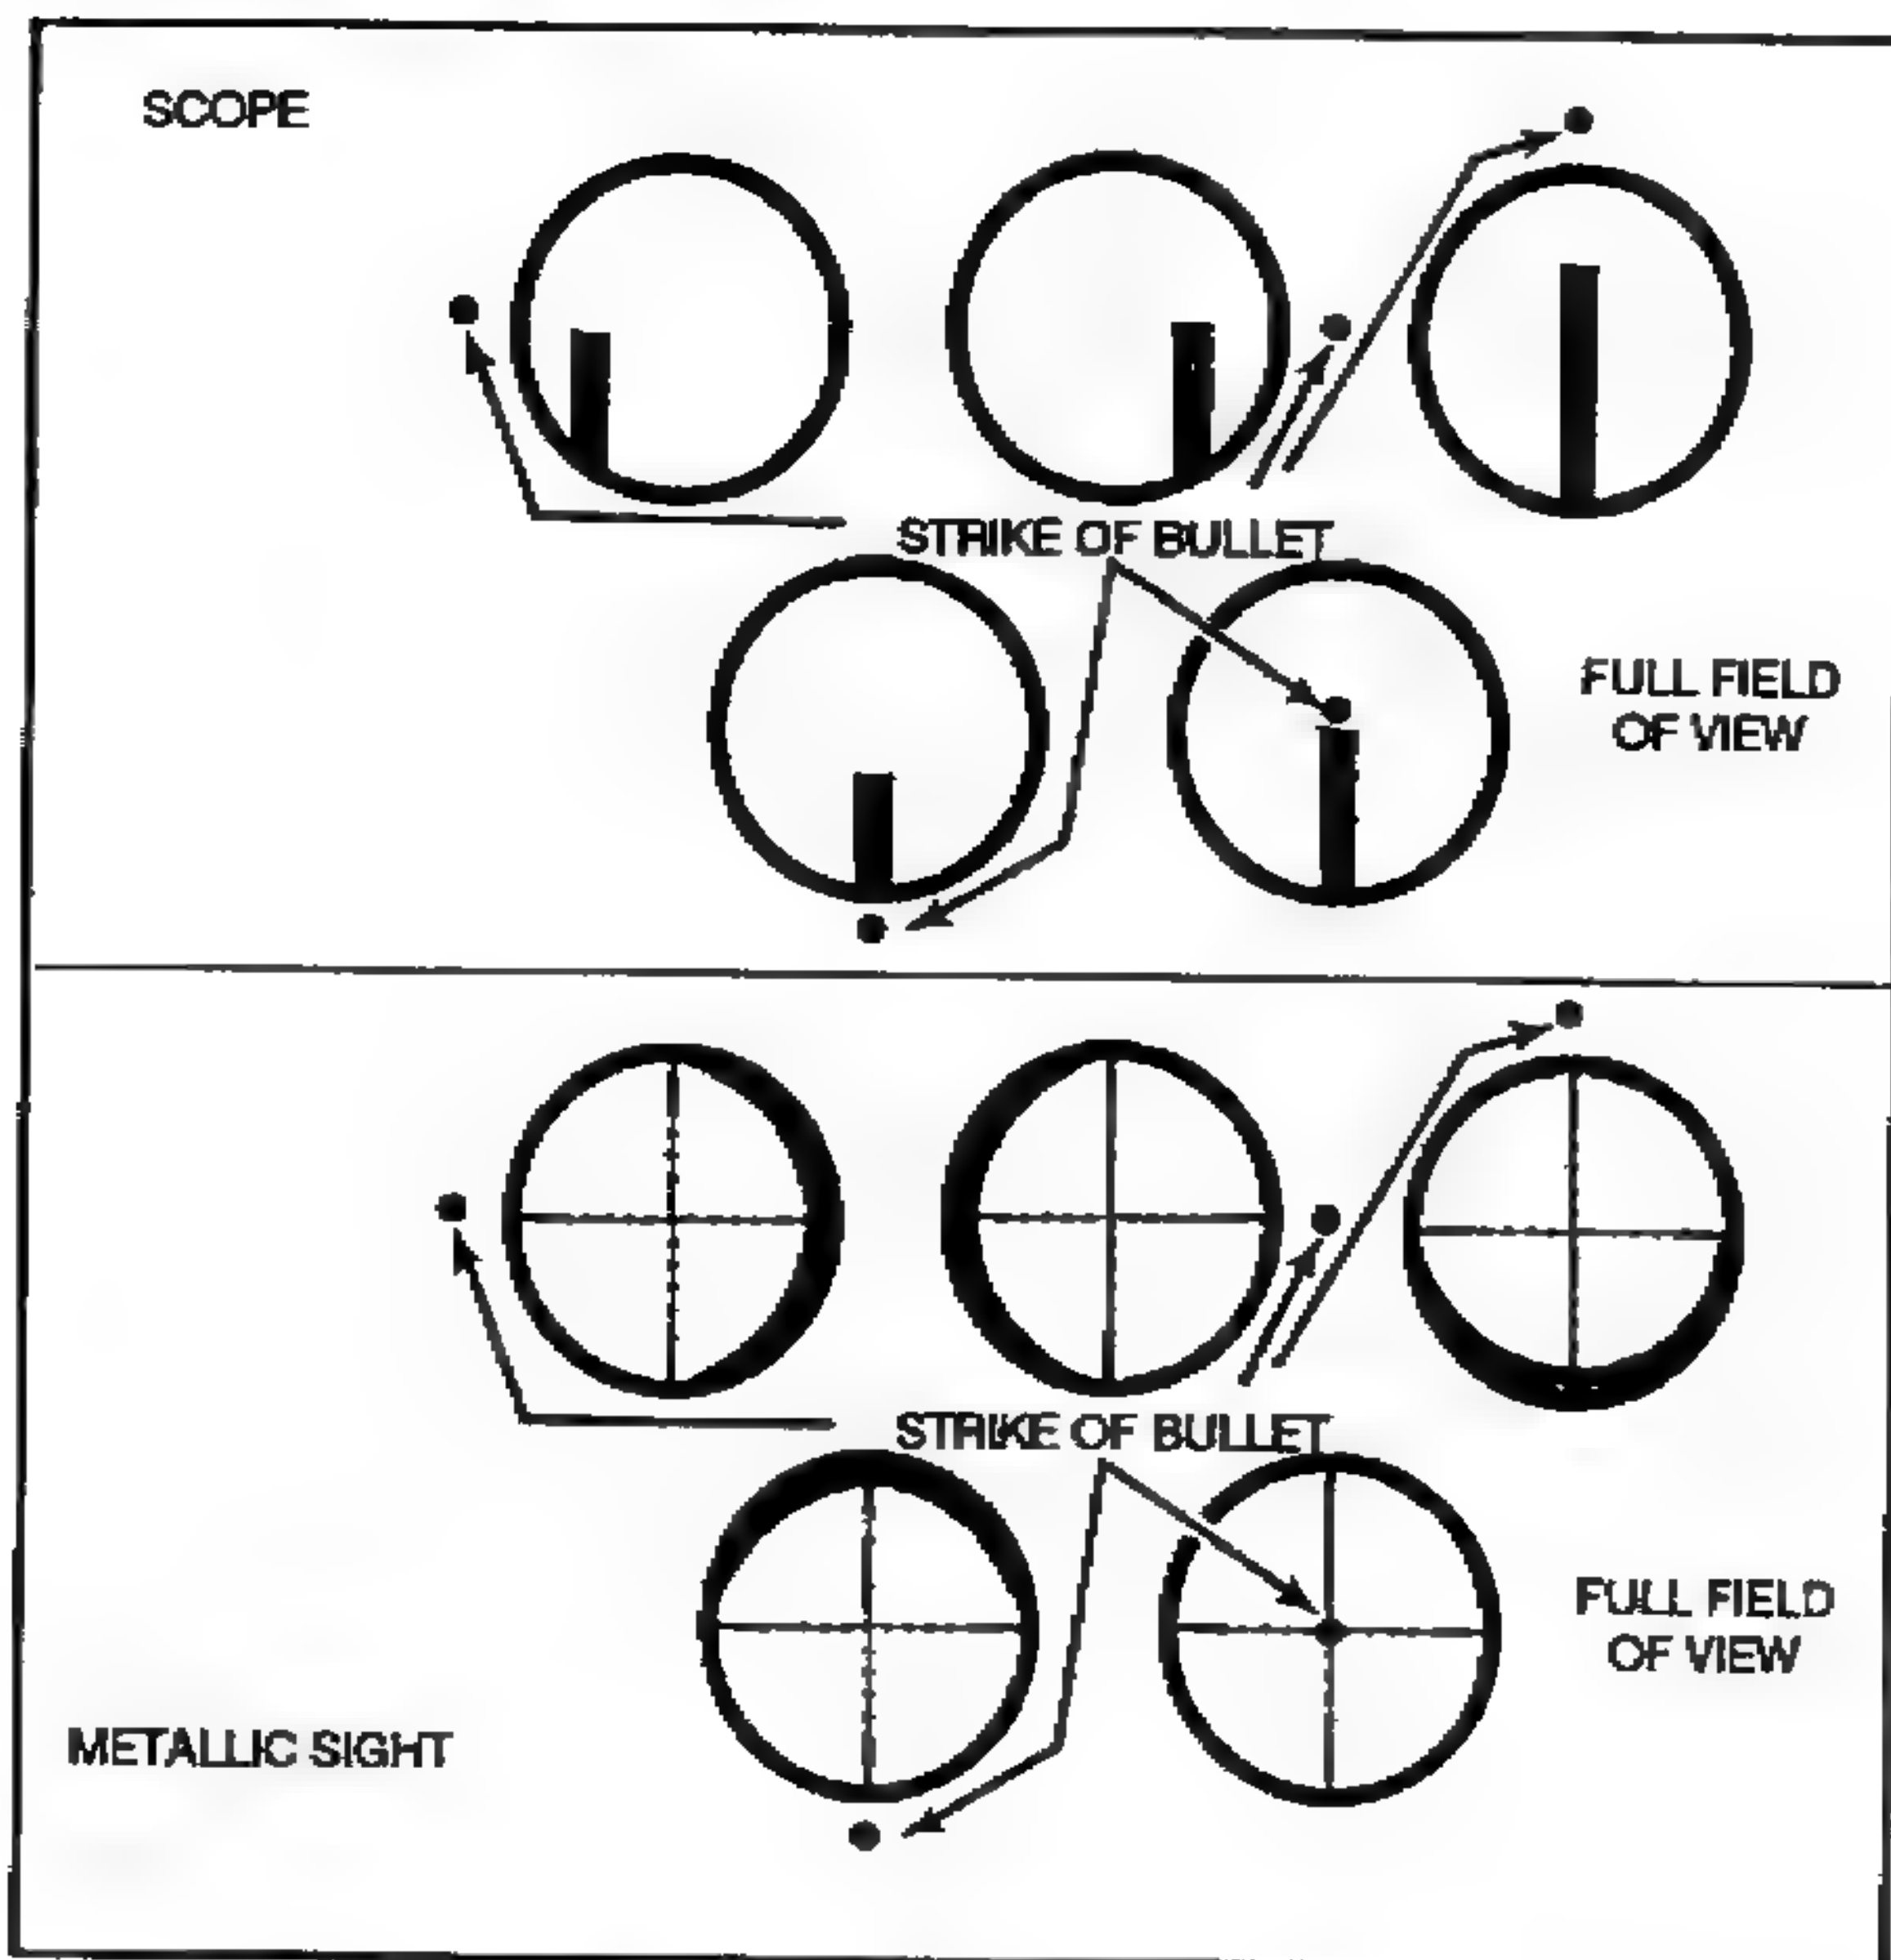

Figure 3-17. Sight alignment.
b. **Sight Alignment.** With telescopic sights, sight alignment is the relationship between the cross hairs (reticle) and a full field of view as seen by the sniper. The sniper must place his head so that a full field of view fills the tube, with no dark shadows or crescents to cause inaccurate shots. He centers the reticle in a full field of view, ensuring the vertical cross hair is straight up and down so the rifle is not canted. Again, the center is easiest for the sniper to locate and allows for consistent reticle placement. With iron sights, sight alignment is the relationship between the front and rear sights as seen by the sniper (Figure 3-17). The sniper centers the top edge of the front sight blade horizontally and vertically within the rear aperture. (The center of aperture is easiest for the eye to locate and allows the sniper to be consistent in blade location.)